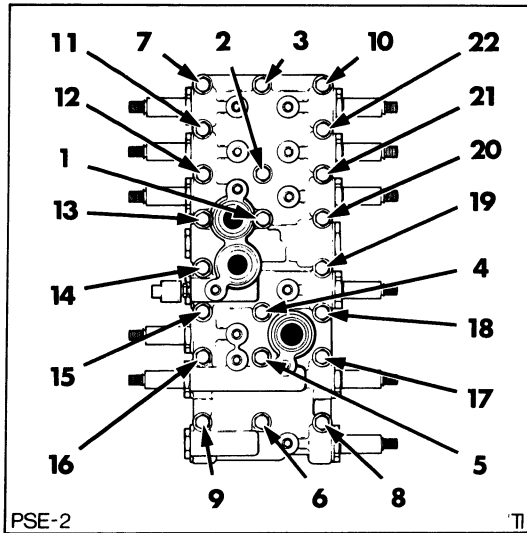

Figure 4
8. Following the numbered sequence shown in Figure 4, loosen each of the 22 retaining bolts, start with bolt no. 22, and progressively loosen in decreasing order. Remove all but two bolts.